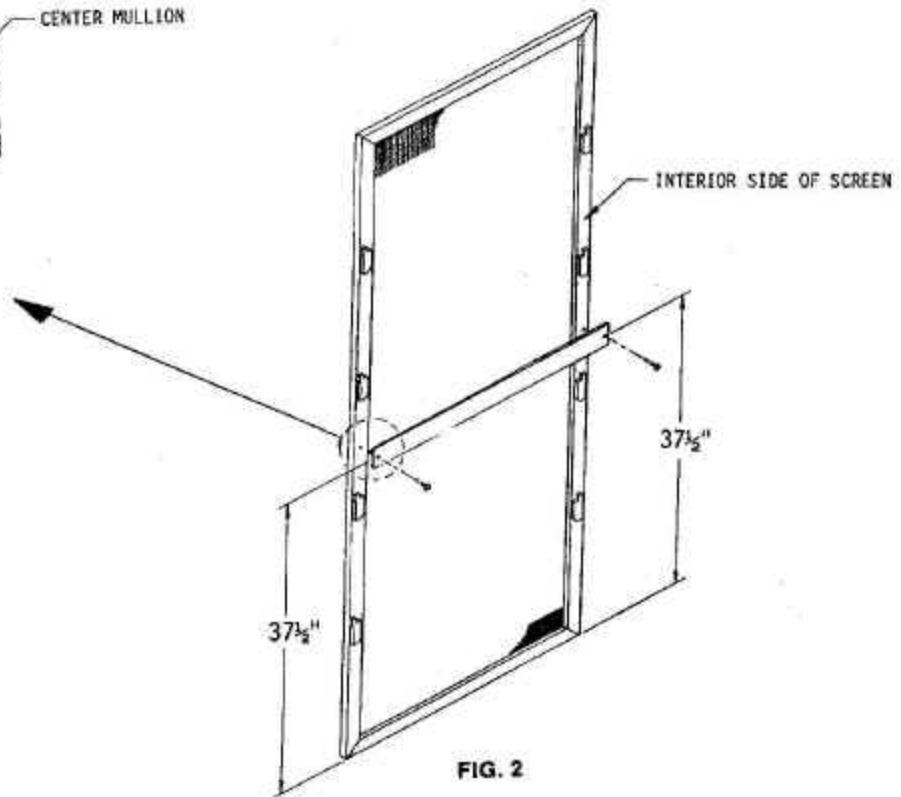

FIG. 2
STEP 2. Place the center mullion on the interior side of the screen so that the hole at each end of the mullion is 37½" from the bottom of the screen and mark the location of these holes on the screen. Using an 1/8" drill bit, drill a pilot hole into the screen at the two locations marked. CAUTION: DO NOT DRILL COMPLETELY THROUGH THE SCREEN FRAME. Using the two screws provided, fasten the center mullion to the screen frame as shown in FIG. 2. DO NOT OVERTIGHTEN SCREWS.